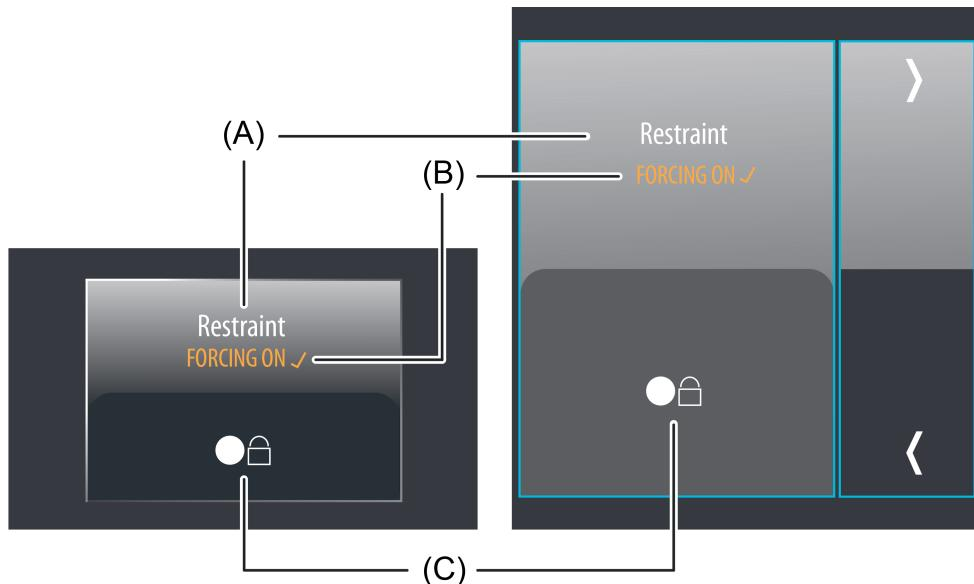

Figure 41: Example of an operating and display element of the KNX function "Restraint"
The display area contains different display elements (figure 41) that are influenced by parameters. A name can be assigned to each KNX function in the configuration software (A). This text name is centred in the display element for display whereby controllable KNX functions are identified for the user (e.g. "Restraint"). In addition, a status text (B) is displayed below the name, which displays the respective switching state selected in plain text depending on the object values (in normal operation or by restraint). The displayed text can be configured separately for each state in the configuration software (e.g. "FORCING ON"). After a device reset, the display shows "—" until an object value of the status text is received or predefined. When the controller has accepted the switching state selected by the sensor surfaces in the object values as valid and thus transfers it to the actuator, the display element displays a ✓ immediately after the status text.